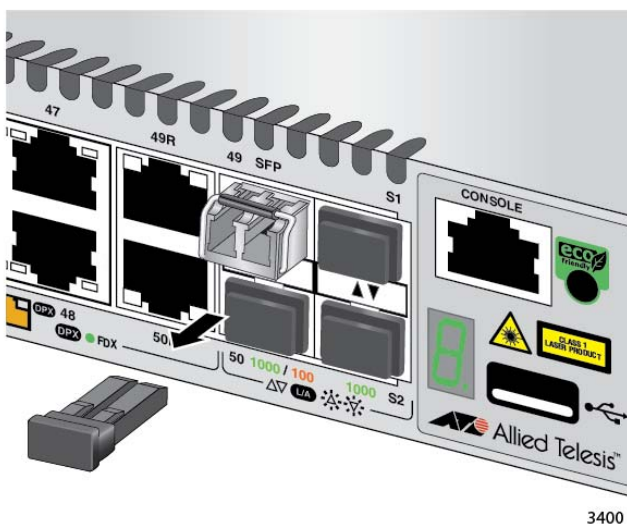

Figure 54. Removing the Dust Cover from an SFP Transceiver
5. Remove the dust cover from the transceiver, as shown in Figure 54.